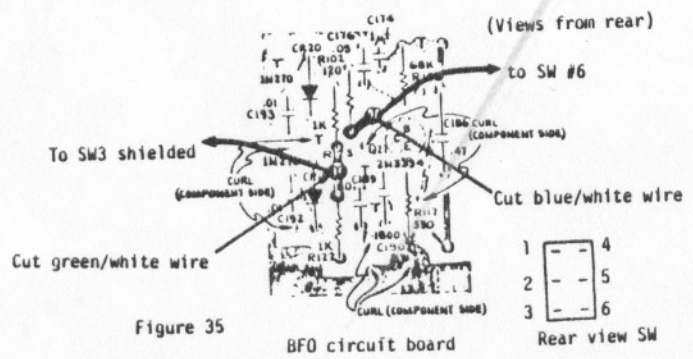

Figure 35
9. Connect wire (hook-up) from terminal on BFO BOARD to terminal 6 on switch. (see figure 35)